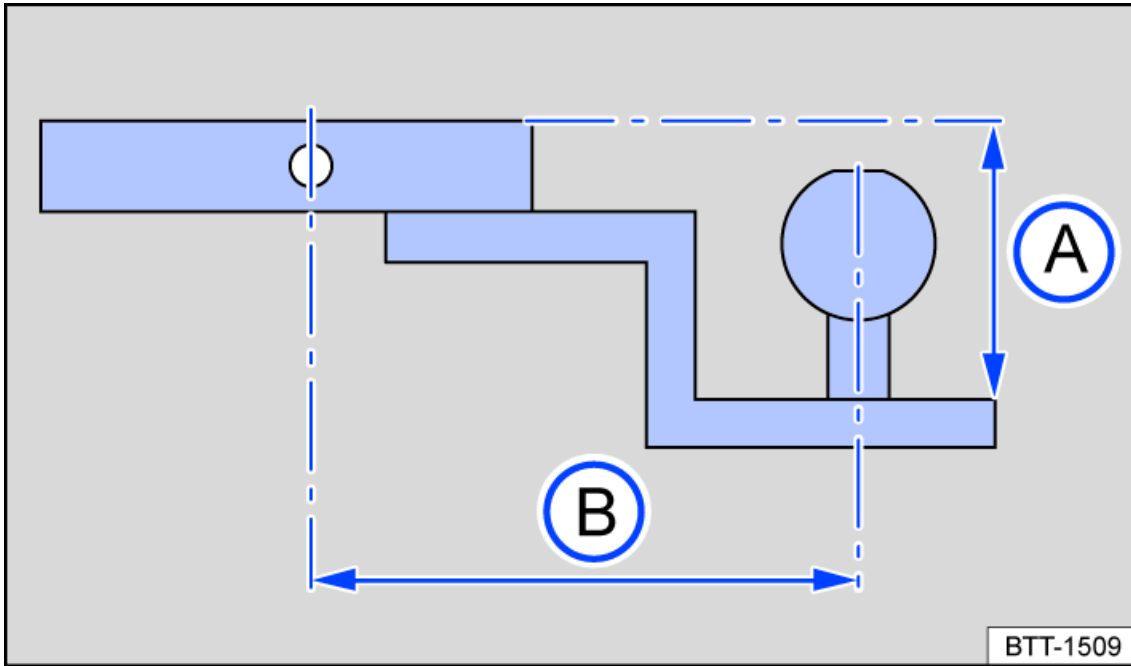

Fig. 140 Dimensions of the ball mount holder and receptacle.
The mount requires a special shape and size of ball mount holder and ball mount. This affects both the suspended height of the ball coupling *fig. 140* **A** and the distance between the socket pin and the ball coupling *fig. 140* **B**.
- The suspended height *fig. 140* **A** from the top of the ball mount to the top of the neck must not exceed 50.8 mm (2 inches).
The distance between the socket pin and the ball mount *fig. 140* **B** must not exceed 209.55 mm (8 1/4 inches) from the middle of the ball mount to the middle of the eye of the pin.